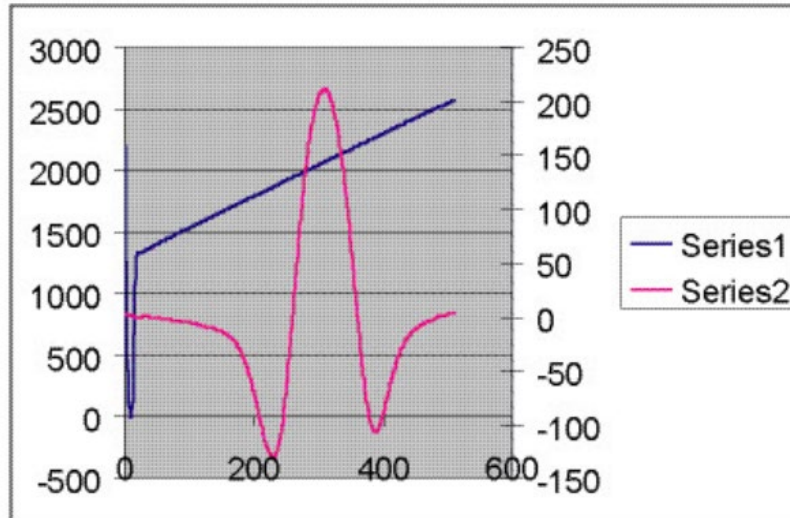

Figure 13. Data file plot in Excel
- Click the Chart Wizard button on the Task Bar. The Chart Wizard should open, as shown in Figure 13.
- Choose the X-Y (Scatter) chart type and the Smoothed Lines Without Markers sub-type. Click Finish to display a graph of the spectrum, as shown in Figure 13.